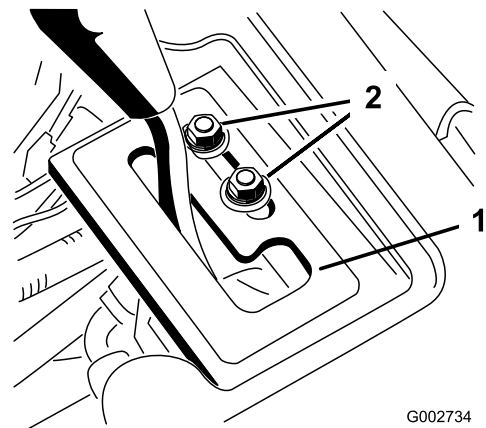

**Figure 37**
2. Remove the 4 screws securing the control panel to the frame (Figure 37).